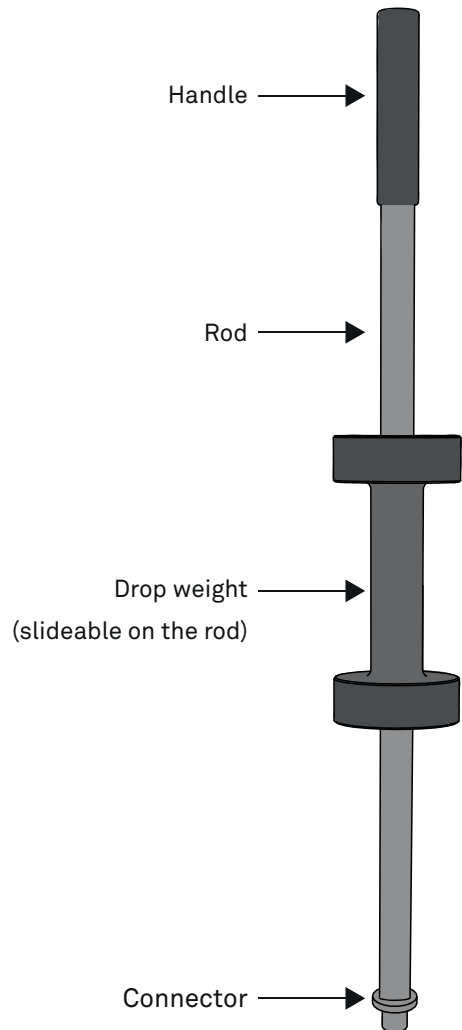

Figure 3 TEROS 54 slidehammer
- The slide hammer (Figure 3) consists of four parts: handle, rod, weight (approx. 4 kg [8.82 lbs]), and connector (put on the TEROS 54 head). Because there is a predetermined distance that the slide hammer weight travels when dropped, there is an even distribution of force delivered.